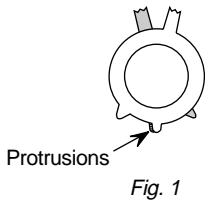

Fig. 1
*The parts above (① ~ ③) are necessary for DAS adjustment.
- (1) Receive an image of the white crosshatch signals (white lines on black).
- (2) Place the protrusions of the 6-fold poles magnet attached to the CRT neck upon each other. (Fig. 1)
- (3) Make rough adjustment of the H and V direction convergence by using 4-fold poles magnet.